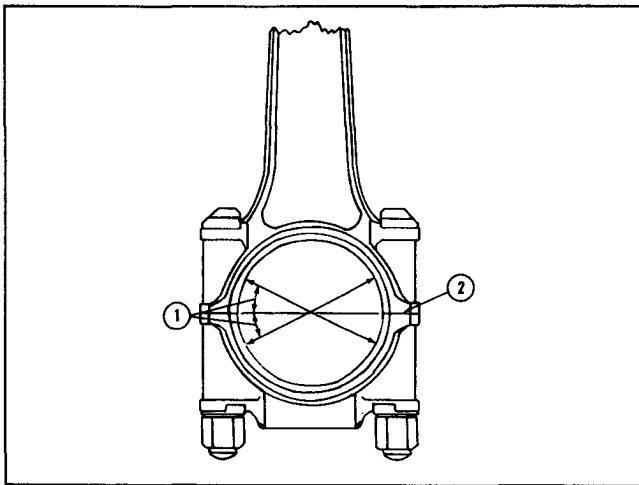

Fig. 1-12, (N10194). Connecting rod measuring points
- a. On 2 inch camshaft engines the connecting rod bore diameter must be within 3.2722 to 3.2736 inch [83.114 to 83.149 mm] up to 30 degrees on either side of parting line. Fig. 1-12.
- mm] up to 30 degrees on either side of parting line. Fig. 1-12.
- c. On 2 inch camshaft engines the connecting rod bore diameter must be within 3.2722 to 3.2732 inch [83.114 to 83.139 mm] beyond 30 degrees on either side of parting line. See Fig. 1-12.
- d. On 2-1/2 inch camshaft engines the connecting rod bore diameter must be within 3.3157 to 3.3167 inch [84.219 to 84.244 mm] beyond 30 degrees on either side of parting line. See Fig. 1-12.